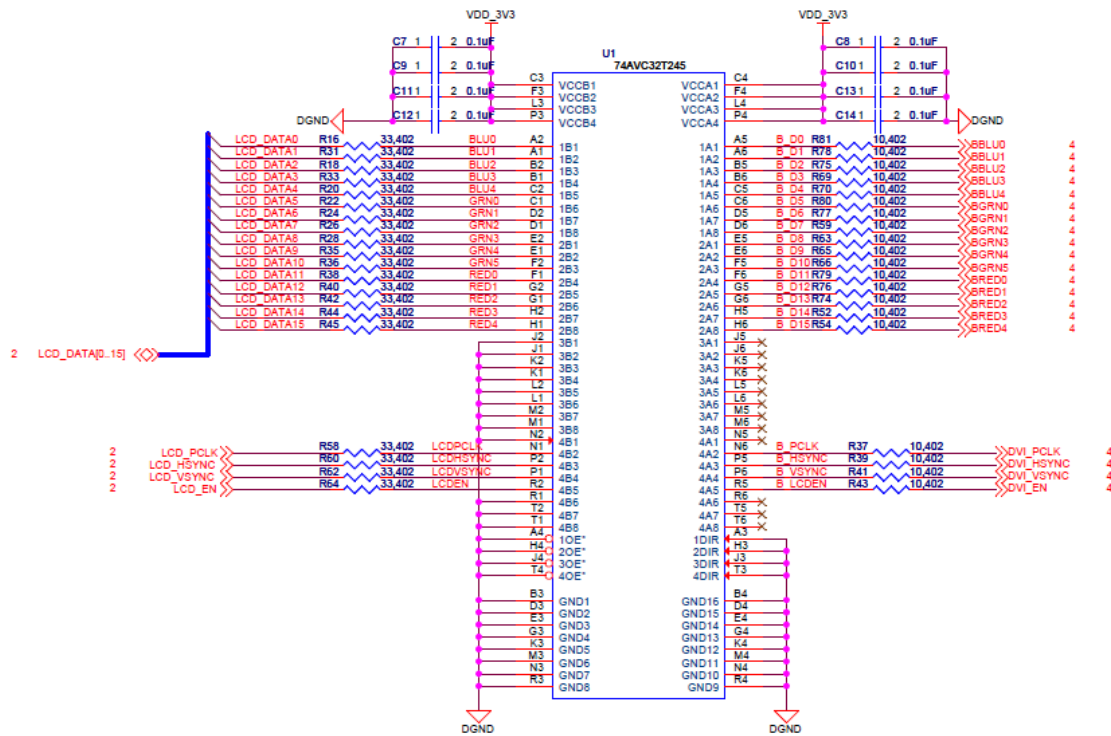

Figure 4. 32-bit Transceiver
LCD data and control signals are buffered through 74AVC32T245 which is a 32-bit dual supply bus transceiver. The 74AVC32T245 also features configurable voltage translation and can operate within voltage range of 1.4V-3.6V. Direction-control (DIR) and output-enable (OE) inputs determine which direction the device transmits data. LCD signals from the main expansion headers are at 3.3V level and the buffered output from the 74AVC32T245 are also at 3.3V; thus, no voltage stepping up or down is needed. **Figure 4** shows the LCD signals buffered through 74AVC32T245.